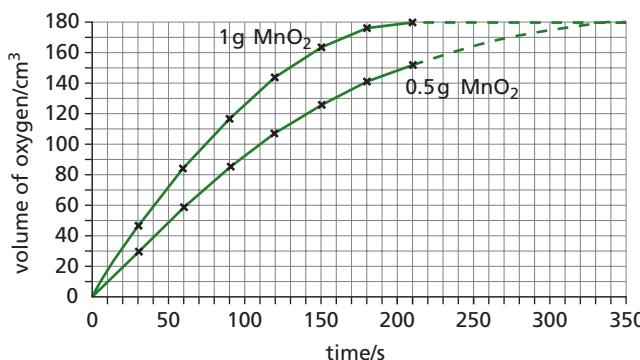

Figure 7.13 Sample data for differing amounts of MnO_2 catalyst.
Some sample results from experiments of this type have been plotted in Figure 7.13. At the end of the reaction, the manganese(IV) oxide can be filtered off and used again. The reaction can proceed even faster by increasing the amount and surface area of the catalyst. This is because the activity of a catalyst involves its surface. Note that, in gaseous reactions, if dirt or impurities are present on the surface of the catalyst, it will not act as efficiently; it is said to have been ‘poisoned’. Therefore, the gaseous reactants must be pure.